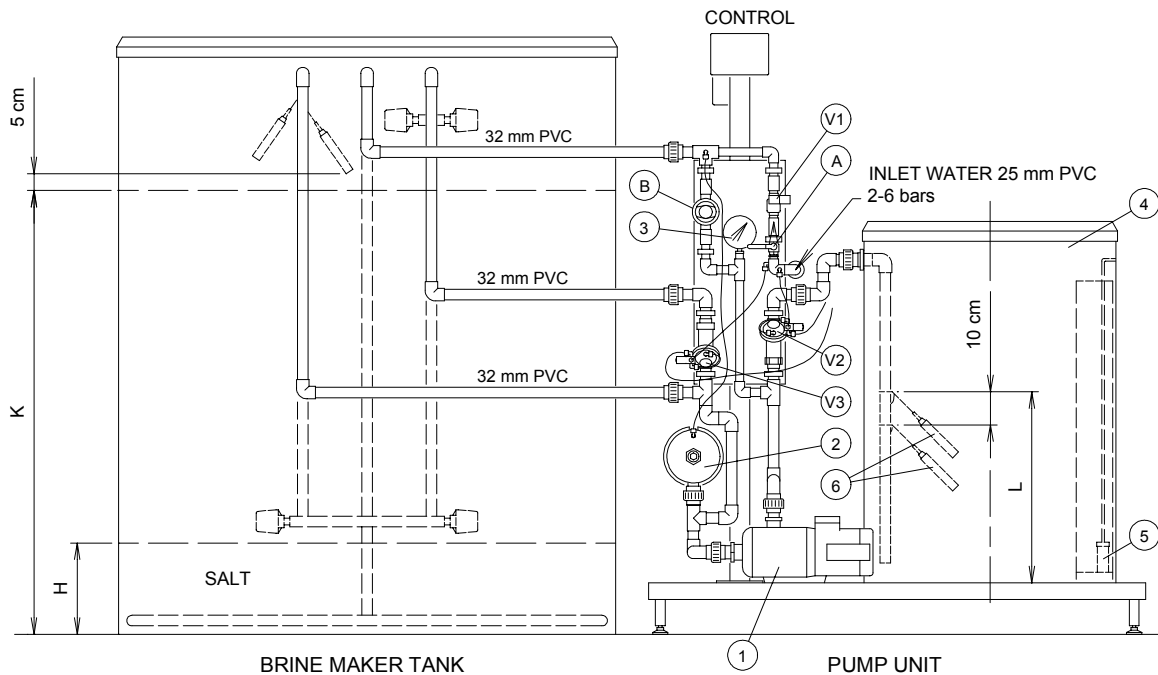

Fig. 2.
B. BRINE MAKER WITH MEASURING TANKS for softening plant SFB/SFHB/SMH/SML (Fig. 2)
The installation is made according to Fig. 2 that shows dimensions and connections.
The level switches in the measuring tank are adjusted according to the salt consumption of the actual softening plant (indicated in the instructions for the softening plant) by means of the level switches as shown in Fig. 2, height "L" [cm].